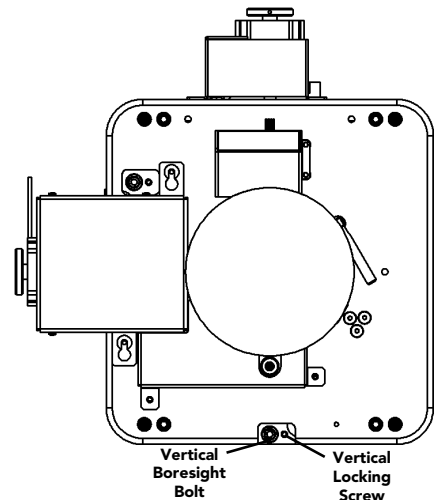

Figure 2-32 Vertical Boresight
1. Loosen the Vertical Locking Screw. See Figure 2-32.
8. Adjust the Vertical Locking Screw to lock the lens mount in place and check boresight again (Figure 2-32). For more information on the TPC ILS File Setup options, refer to *Advanced Setup: ILS File Setup Window*. The ILS can also be adjusted using serial commands. See *Appendix B: Serial API* for the more information on these commands.